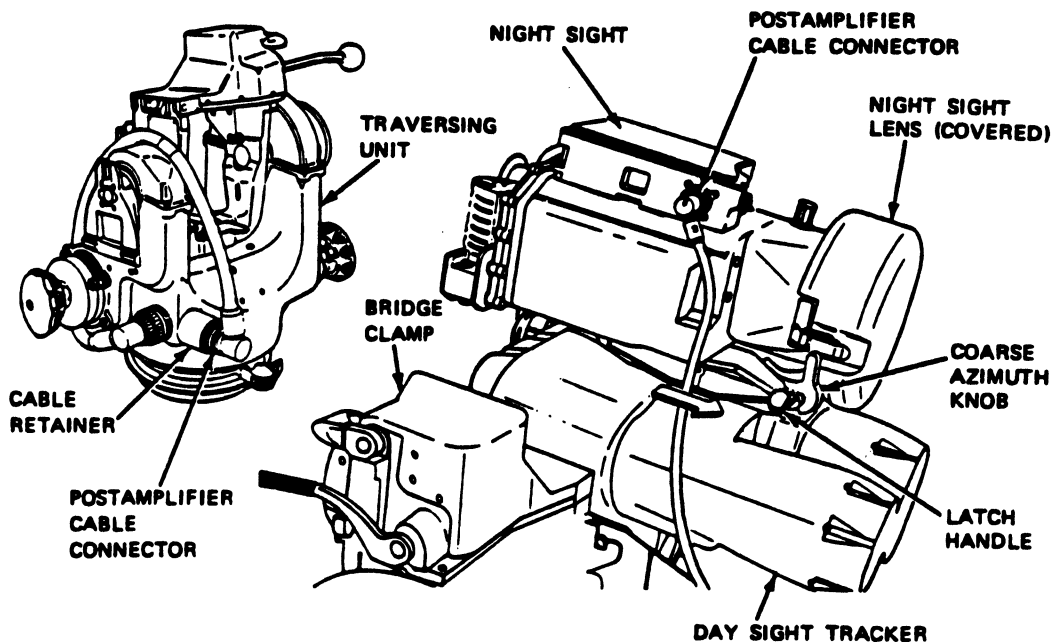

Fig 2-16. Installing night sight--continued.
Step 5. Move the latch handle toward the front of the night sight (in direction of arrow) to lock it in place. Ensure that the night sight is securely mounted to the day sight tracker before you let go (fig 2-16).
Step 6. Remove the postamplifier cable connector from the cable retainer on the traversing unit (fig 2-16).